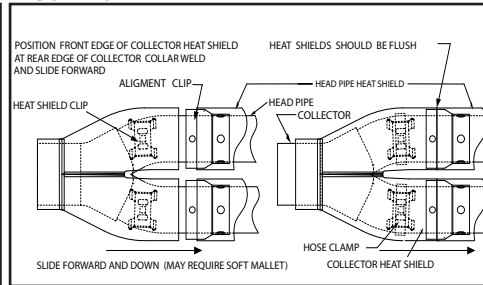

FIGURE 7
- Install exhaust port flanges and circlips (from stock system) onto head pipes (Figure 7). NOTE: Use care when installing flanges, using a low tack tape (blue painters or equivalent) if necessary to protect the edges of the heat shields from damage
- Install muffler assembly onto collector of header assembly (Figure 7). Attach muffler assembly to OEM sliding hanger and secure with 5/16" OEM bolts removed earlier.